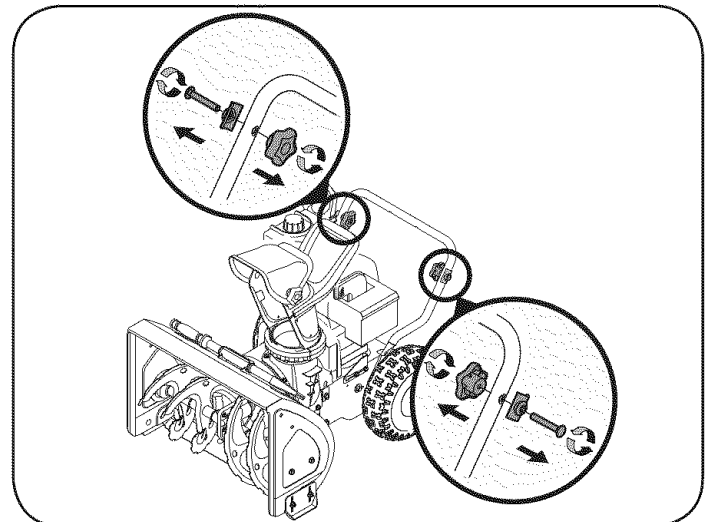
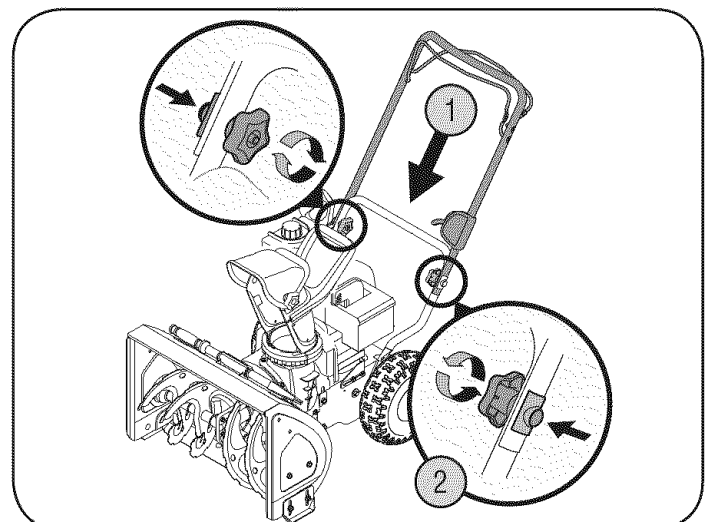

Figure 2
Figure 3
2. Loosen and remove the star knob, handle tab, and carriage screw on each side of the lower handle. See Figure 2.
4. Lift the upper handle up and position it over the lower handle, aligning the holes where the star knobs were removed (1).
5. Insert a carriage screw from the outside through a handle tab, the upper and lower handles, and into the star knob (2). Repeat on the other side.
6. Tighten the star knobs on each side of the handle. Refer to Figure 3.